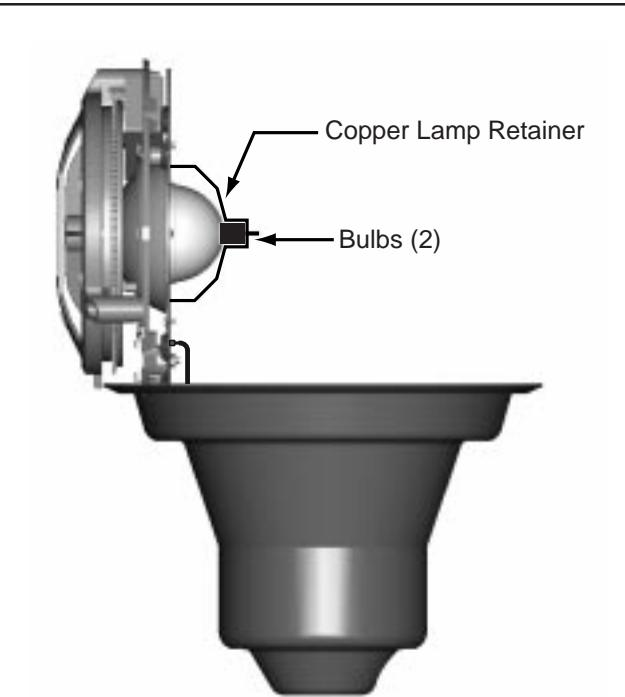

Figure 3.
- a. With a  $\frac{1}{4}$ " nut driver, remove 4 bulb plate retainer nuts and place in a secure location, see Figure 3.
- b. Lift color wheel/bulb assembly to clear bolts, then swing up and rest vertically in light fixture to provide bulb access, see Figure 3.